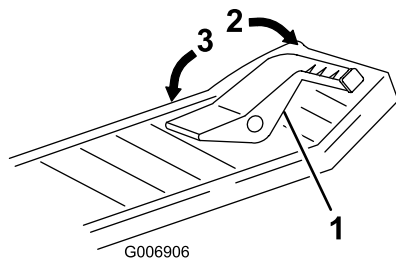

Figure 23
2. Place your foot on the traction control pedal and slowly press on the top of the traction control pedal to move forward or on the bottom of the pedal to move backward (Figure 23).